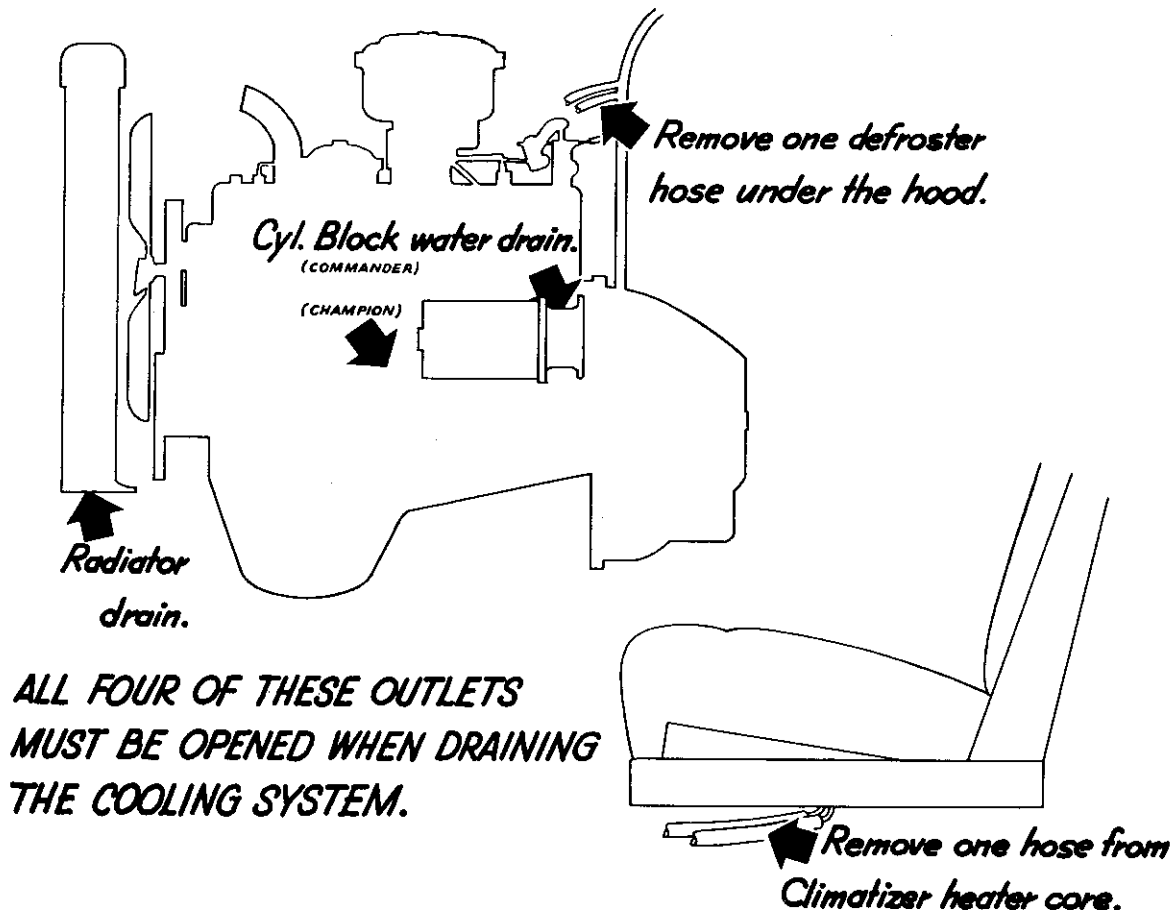

FIG. 88
**CHAMPION AND COMMANDER** To drain the cooling system completely, drain the radiator, the block, the Climatizer, and the defroster (see Fig. 88).